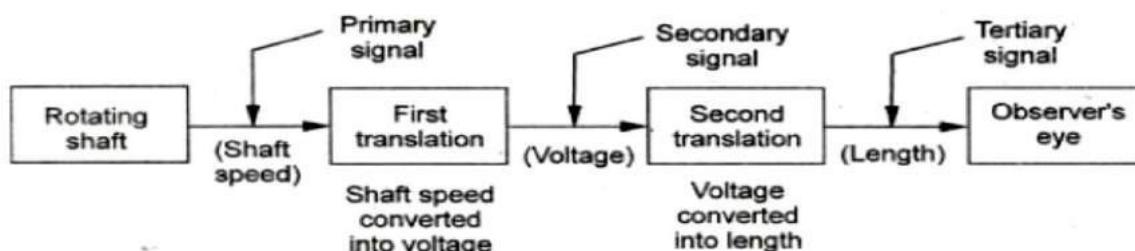

Figure 1.4 Tertiary measurement: measurement of angular speed by an electric tachometer
- The measurement of the speed of a rotating shaft by means of an electric tachometer (Fig.1.4) is another typical example of tertiary measurement.